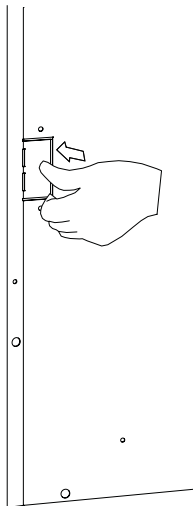

Figure 14
2. Bend the tab out of the way. **See Figure 14.**